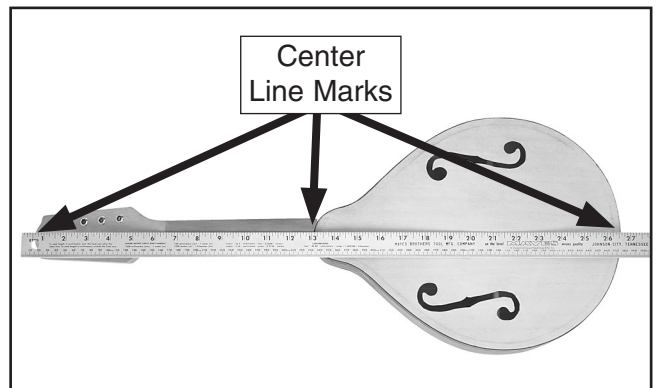

Figure 17. Checking neck and body alignment along center line.
4. Place a straightedge across your center marks as shown in **Figure 17**.